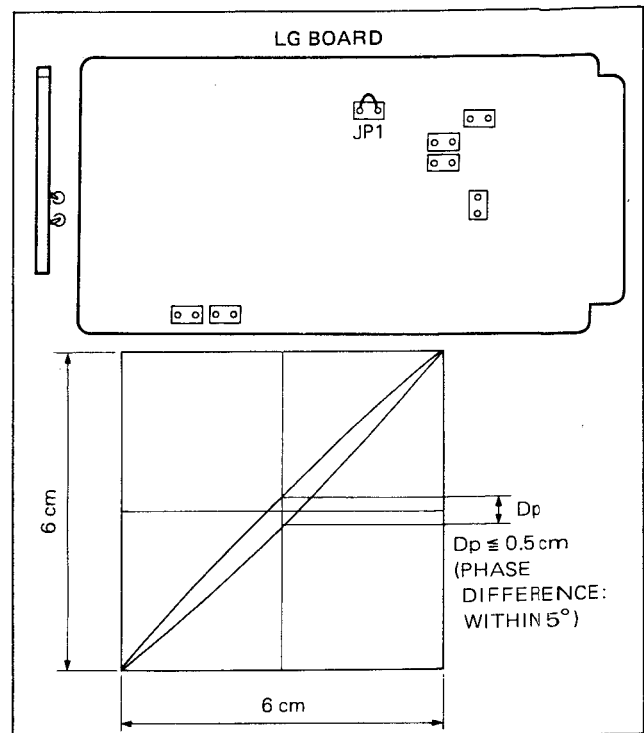

Fig. 10-37. Audio/CTL Monitor Head Azimuth Adjustment of Audio 3 kHz Playback
4. Check that the phase difference between the audio-1 channel and the audio-2 channel is within 5 degrees. See Fig. 10-37.